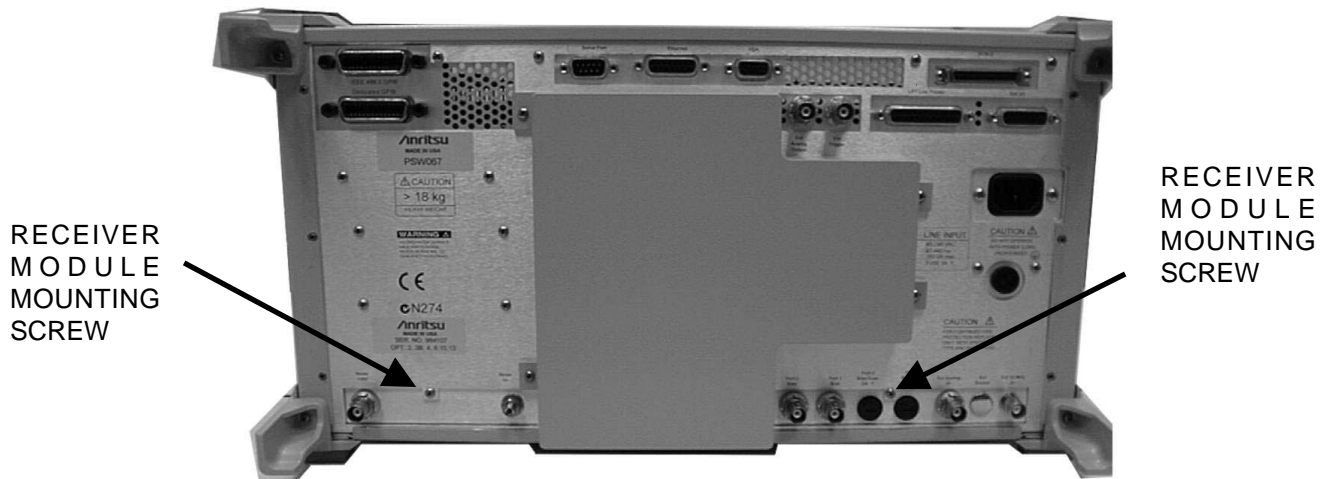

Figure 7-11. Receiver Module Mounting Screws (2)
4. Remove the two rear panel mounting screws that secure the receiver module (Figure 7-11).